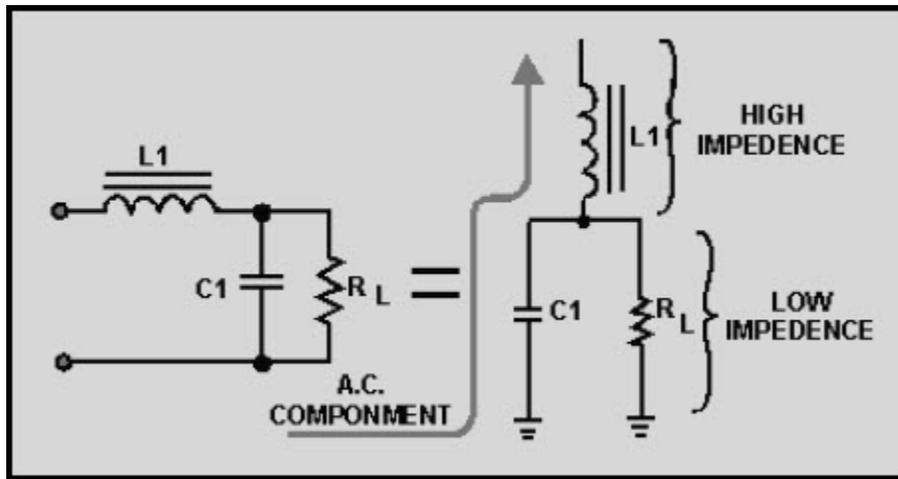

Figure 3-30 LC choke-input filter (as voltage divider)
The series inductor (L1) and the capacitor (C1) form a voltage divider for the ac component (ripple) of the applied input voltage. This is shown in figure 3-30. As far as the ripple component is concerned, the inductor offers a high impedance (Z) and the capacitor offers a low impedance. As a result, the ripple component (E_r) appearing across the load resistance is greatly attenuated (reduced). Since the inductance of the filter choke opposes changes in the value of the current flowing through it, the average value of the voltage produced across the capacitor contains a much smaller value of ripple component (E_r), as compared with the value of ripple produced across the coil.